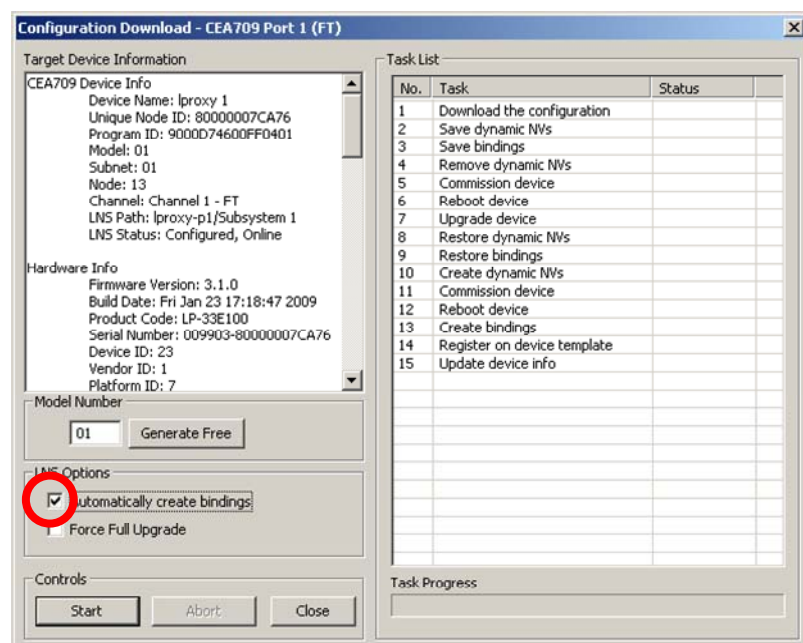

Figure 113: Configuration Download Dialog
in the tool bar. This will open the configuration download dialog as shown in Figure 113.
8. The download dialog as shown in Figure 113 appears.
9. If no bindings shall be generated, deselect the **Automatically create bindings** checkbox indicated by the red circle in Figure 113.